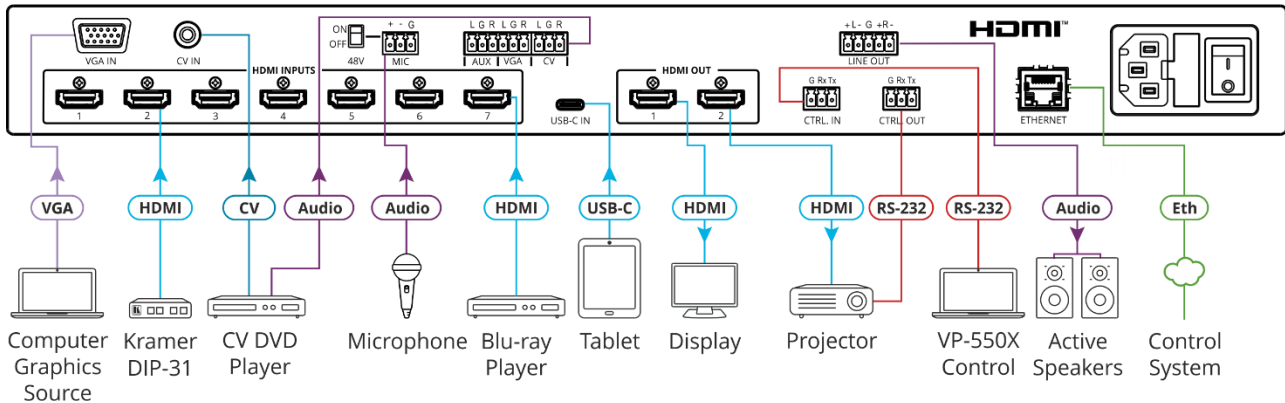

Figure 3: Connecting to the **VP-550X** Rear Panel
To connect the **VP-550X** as illustrated in the example in Figure 3:
1. Connect a computer graphics source (for example, a laptop) to the VGA IN15-pin HD Input connector (11).
2. Connect a composite video source (for example, a DVD player) to the CV IN RCA connector (12).
3. Connect up to 7 HDMI sources (for example, a Blu-ray player to HDMI 5) to the HDMI INPUT connectors (10).
4. Connect VGA and CV stereo audio sources to the audio input terminal block connectors (18) (for example, the CV DVD player audio source to the CV audio input).
5. Connect a microphone to the 3-PIN terminal block (15) and set the 48V switch (14) ON or OFF, as required.
6. Connect up to 2 HDMI OUT connectors (19) to HDMI acceptors (for example, HDMI 1 to a display and HDMI 2 to a projector).
7. Connect the LINE OUT 4-pin terminal block connector (21) to active speakers (for example, Kramer **Tavor 5-O** speakers).
8. Connect the RS-232 CTRL OUT 3-pin terminal block connector (22) to the RS-232 port of an external device (for example, the projector connected to HDMI 2).
9. Connect the RS-232 CTRL IN 3-pin terminal block connector (20) to the RS-232 port on a controller (for example, a laptop) to control the **VP-550X**.
10. Connect the ETHERNET RJ-45 port (23) to the Ethernet.
11. Connect the power cord to the **VP-550X** mains socket (24) and to the mains electricity (not shown in Figure 3).